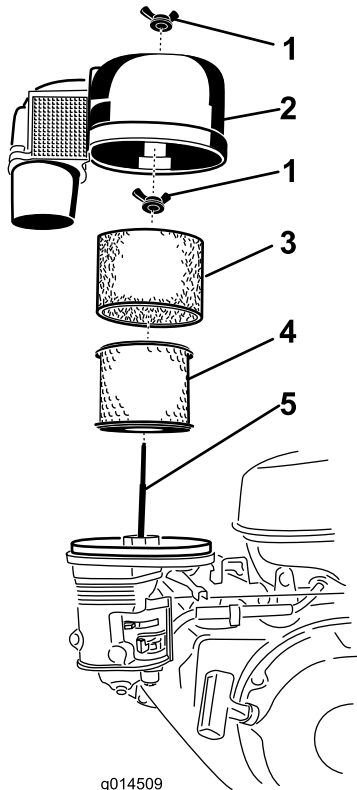

Figure 15
3. Remove the wing nut and lift off the air-cleaner cover with the air-filter cowl (Figure 15).
4. Remove the foam element (Figure 15).
5. Remove the wing nut on top of the paper element and remove the paper element (Figure 15).
1. Clean the paper element by tapping it gently to remove dust. If it is very dirty, replace the paper element with a new one (Figure 15).